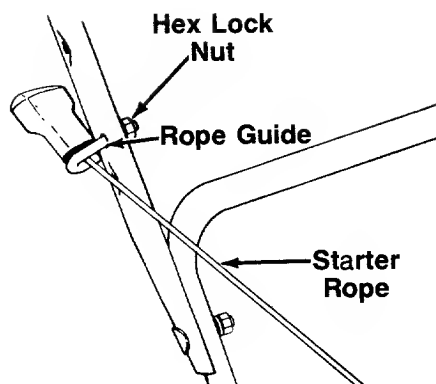

FIGURE 7.
3. Place the rope guide around the starter rope, so the rope guide bends downward as shown in figure 7. Insert the rope guide into the handle, and secure with hex lock nut.